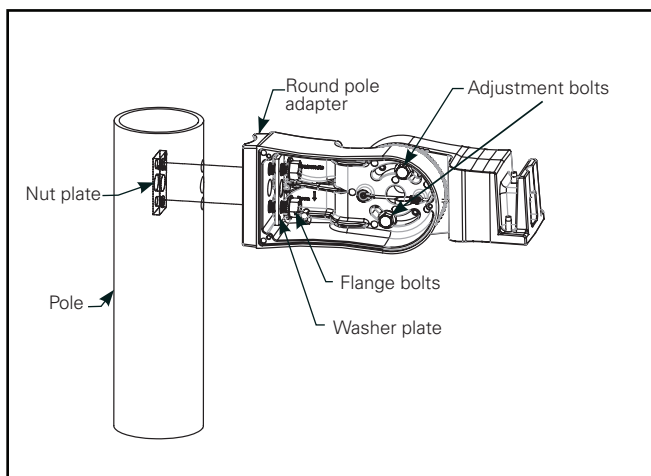

Figure 2.
2. Install arm to pole. Align nut plate inside the pole with each the round pole adapter (if required), the mounting arm, and the washer plate in that order outside the pole. Insert the two flange bolts through all and hand tighten into the nut plate. (Figure 2.)
4. Loosen the two adjustment bolts within the arm in the slots. Do not fully remove bolts. Adjust the arm to the desired position and retighten the adjustment bolts to 20 ft-lbs. (27N-m). (Figure 2.)